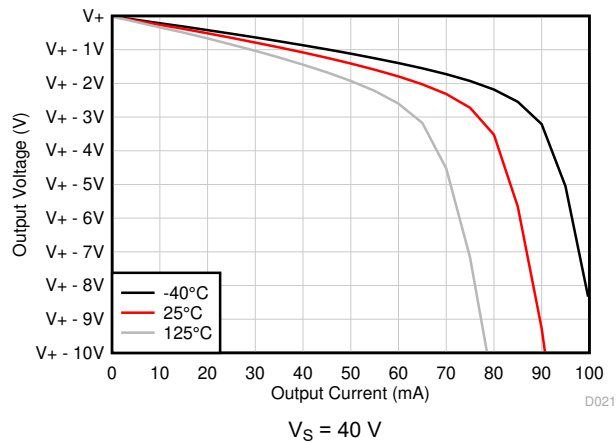

图 6-12. Output Voltage Swing vs Output Current (Sourcing)
- (1) Specified by characterization only.
- (2) At high supply voltage, placing the TLV936x-Q1 in a sudden short to mid-supply or ground will lead to rapid thermal shutdown. Output current greater than I_{SC} can be achieved if rapid thermal shutdown is avoided as per Fig 6-12.